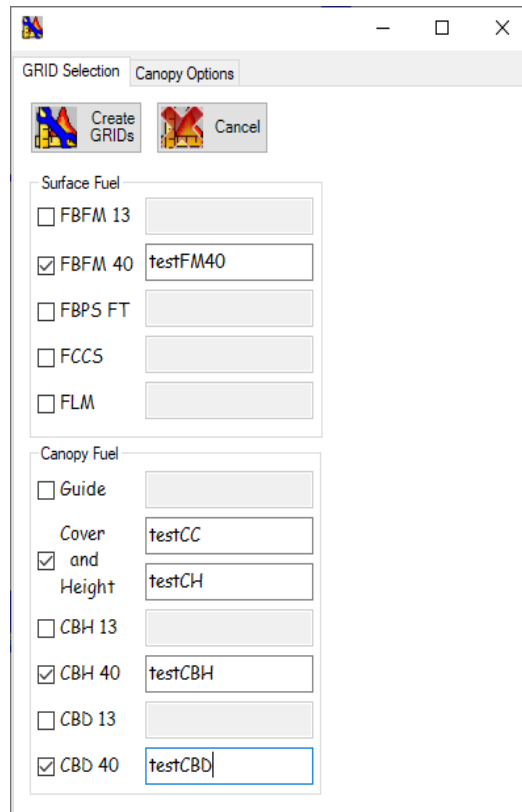

Figure 6-19. Complete the **GRID Selection** tab and click **Create GRIDs** when done.
The following dialog box will open with the **GRID Selection** tab visible as shown in Figure 6-19.
Note: After the boxes are selected with a check mark, the associated box for naming the layer is enabled (Figure 6-19).
- Select **FUEL GRIDs** on the drop-down menu to open a dialog box (Figure 6-19).